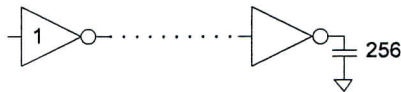

Fig. 16
- 16. Design a tapered buffer to drive a 256-unit loading (relative to C_{in} of unit inverter) as shown in Fig. 16. (5%)